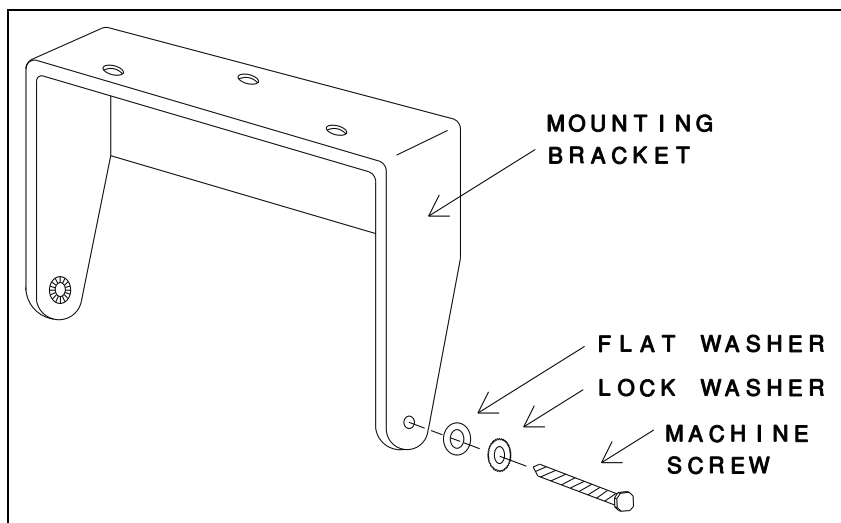

Figure 12 - Mounting The External Speaker
1. Mount the speaker so it is directed to the operator but does not cause interference with his vision. It also should not present a hazard in the event of an accident. The speaker may be mounted on the lower edge of the instrument panel, the fire wall, or above the windshield in some trucks. Use the mounting bracket as a template for locating the mounting holes, and mount the speaker as shown in Figure 12.